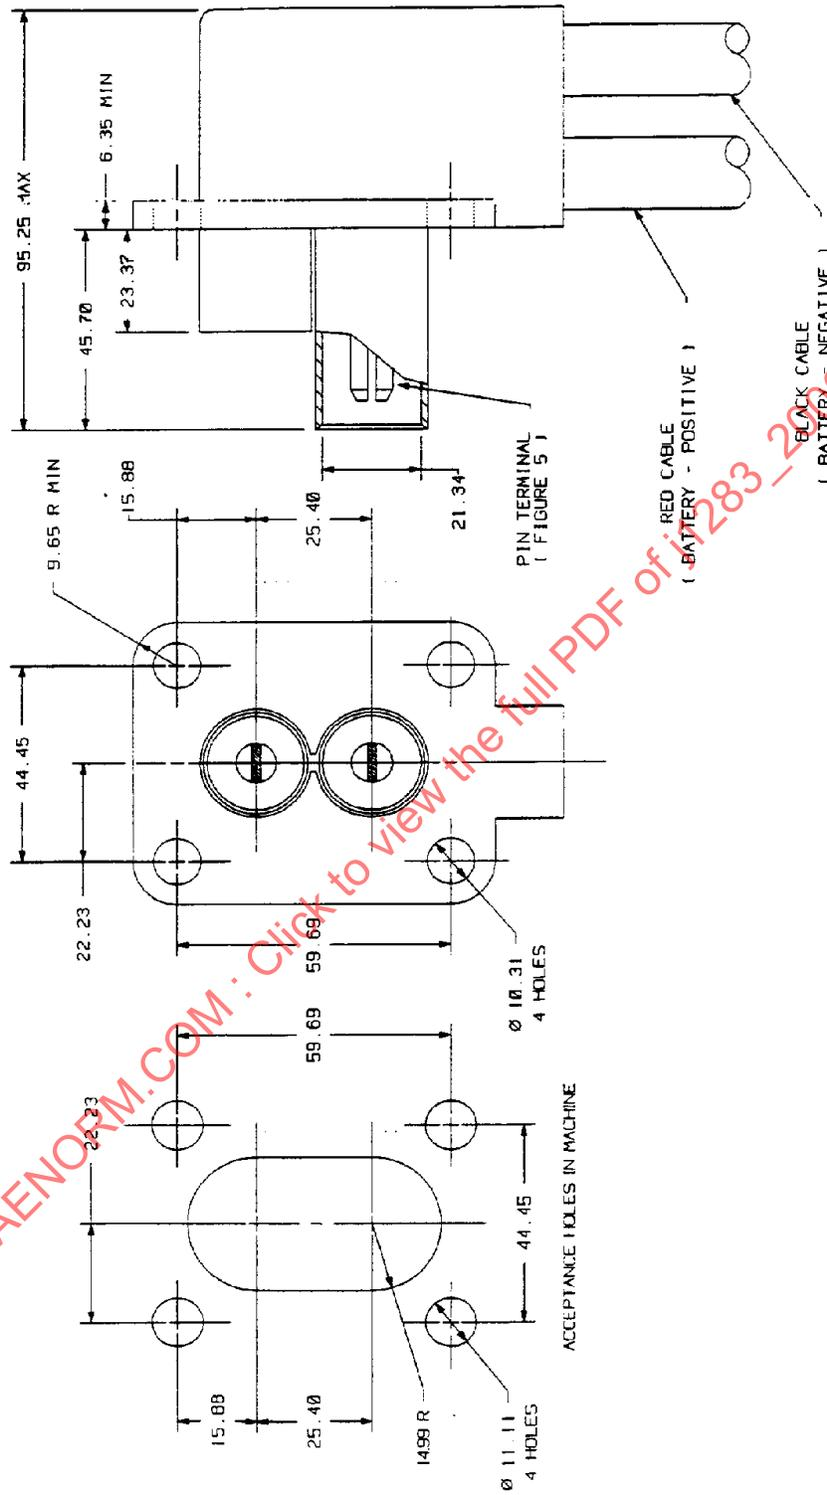

FIGURE 1—RECEPTACLE ASSEMBLY—90 DEGREES
3.1 The receptacle assembly shall contain two pin contacts as shown in Figures 1 and 2.
- 3.7 Color identification of cables and battery polarity shall conform to Figures 1 and 2.